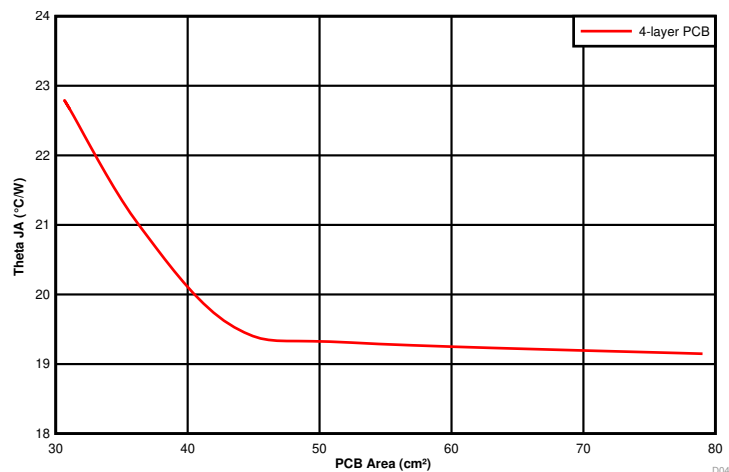

Figure 47. $R_{\theta JA}$ versus PCB Area (per Layer)
The amount of PCB copper affects the thermal performance of the device. Figure 47 shows the effects of copper area on the junction-to-ambient thermal resistance ($R_{\theta JA}$) of the TPSM53603. The junction-to-ambient thermal resistance is plotted for a 4-layer PCB with PCB area from 30 cm² to 80 cm².
3. Reference Figure 47 to determine the minimum required PCB area for the application conditions.